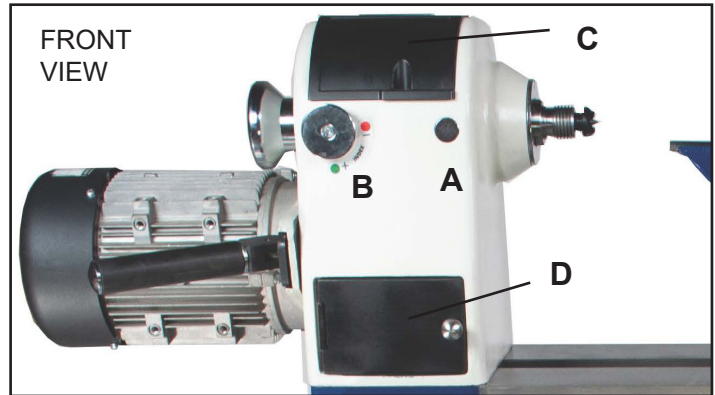

FIG. 13
NOTE: The Faceplate (S) may be shipped pre-installed on the headstock spindle. If plate or bowl turning is to be done, then the use of the faceplate is needed. To remove the faceplate, loosen the two set screws in the rear hub of the faceplate with the 3mm hex wrench. Then unscrew it from the spindle (counter-clockwise rotation) using the two large 38/46mm wrenches (N) or one wrench while pushing in the Spindle Lock Button (see page 13, Fig. 13,A).
A. SPINDLE LOCK BUTTON (FIG. 13, A) secures the headstock spindle for the mounting or removal of faceplates or chucks. To operate, simply push in the button which will insert its rear pin into one of the 4 holes in the Spindle Lock Disc (Fig. 16, E). Release the button to unlock the spindle to resume work.
B. SPINDLE INDEXING CONTROLS: (FIG. 13, B) The Index Pin Assembly is used to hold and position the spindle for making accurate, spaced pattern work on projects such as straight fluting, grooving, drilling, detail carving, wood burning patterns and laying out designs and more.
C. HEADSTOCK DOORS: (FIG. 13, C & D) Lift upper door/lid 'C' for access to the spindle drive & index pulley, RPM reader and spindle lock assemblies (FIG. 16). Open door 'D' to access the motor drive pulley (page 18, Fig. 31).